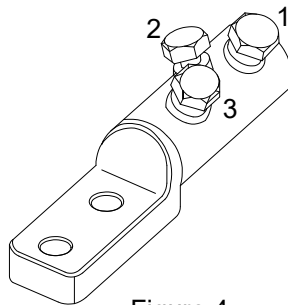

Figure 4
- Hand tighten the bolts to firmly grip the conductor. Use the tightening sequence shown in Figure 4 to tighten the bolts one-and-a-half turns. Bolts should remain un-sheared.